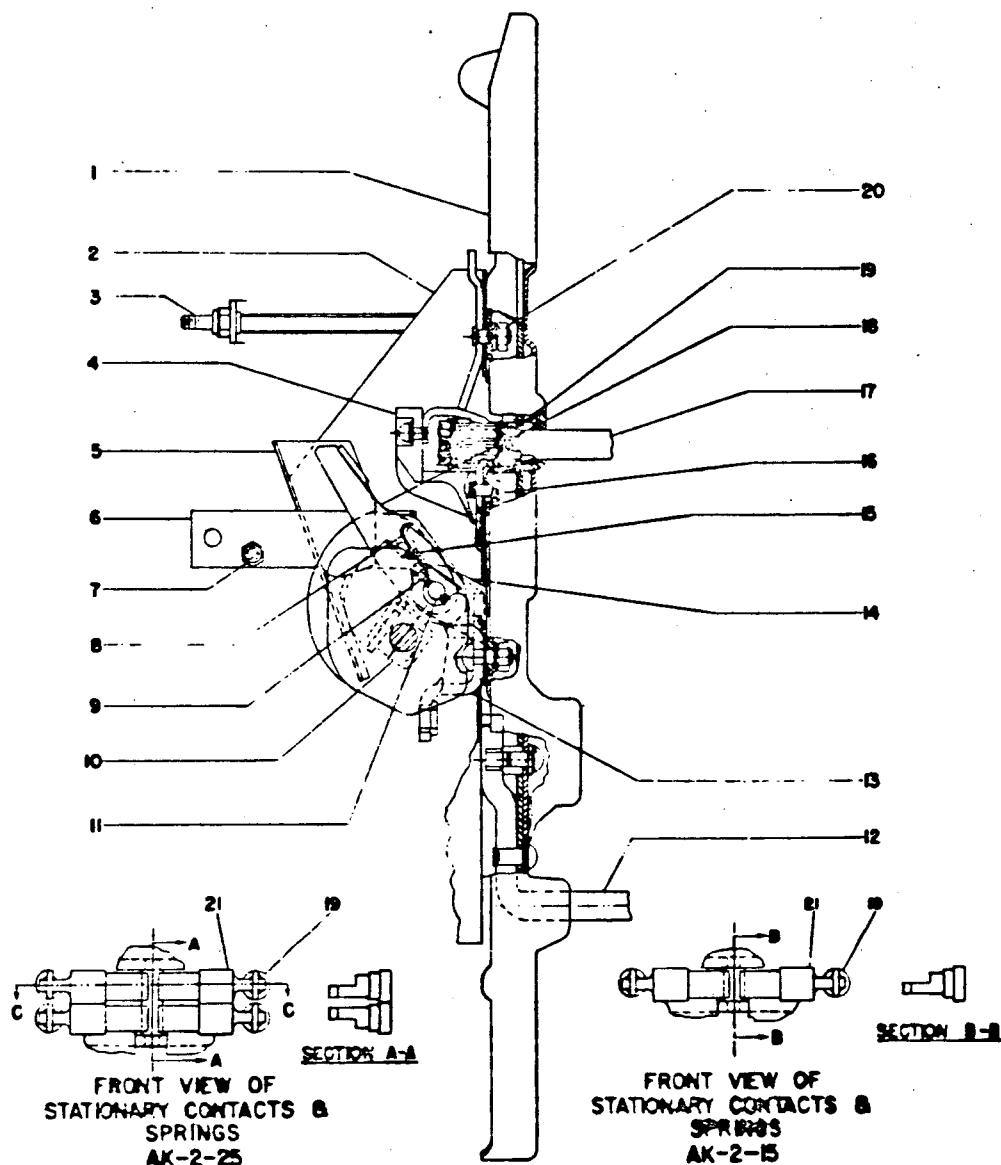

Figure 3. (549D409-2) Contact Assembly
7. Operate the breaker manually several times to assure proper functioning occurs, then replace the U shaped insulation (5) Figure 3 and arc quenchers. When replacing the arc quenchers be sure the quencher is seated downward completely and that the quencher clamp covers the knobs protruding through the arc quencher insulation.
stationary contacts and be sure to locate them in the breaker with the upper and lower contacts having their stop projecting surfaces as shown in the section AA, Figure 3. The upper left and lower right contacts are identical as are the lower left and upper right contacts.
### REPLACEMENT OF MOVABLE CONTACTS (18) Figure 3.